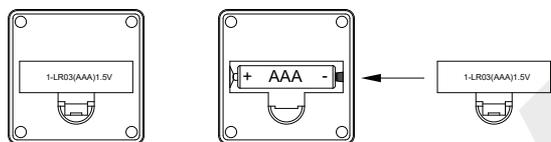

fig.1
4. Install the battery Remove the battery cover, insert one AAA battery into battery house, pay attention to the positive and negative as the fig.1, install the battery cover. It is not necessary to set zero again, the zero level is still correct.